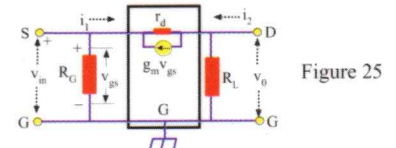

Figure 25
Common-gate (CG) FET amplifier circuit and its equivalent circuits Fig. 25